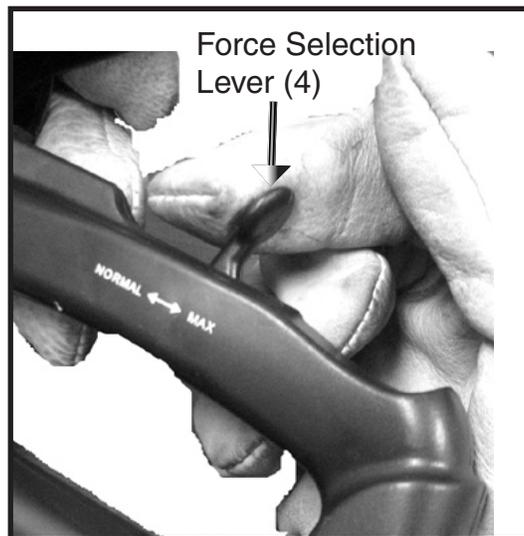

Figure 3
2. Set the Force Selection Lever (4) to either "Normal" or "Max"-see Figure 3.